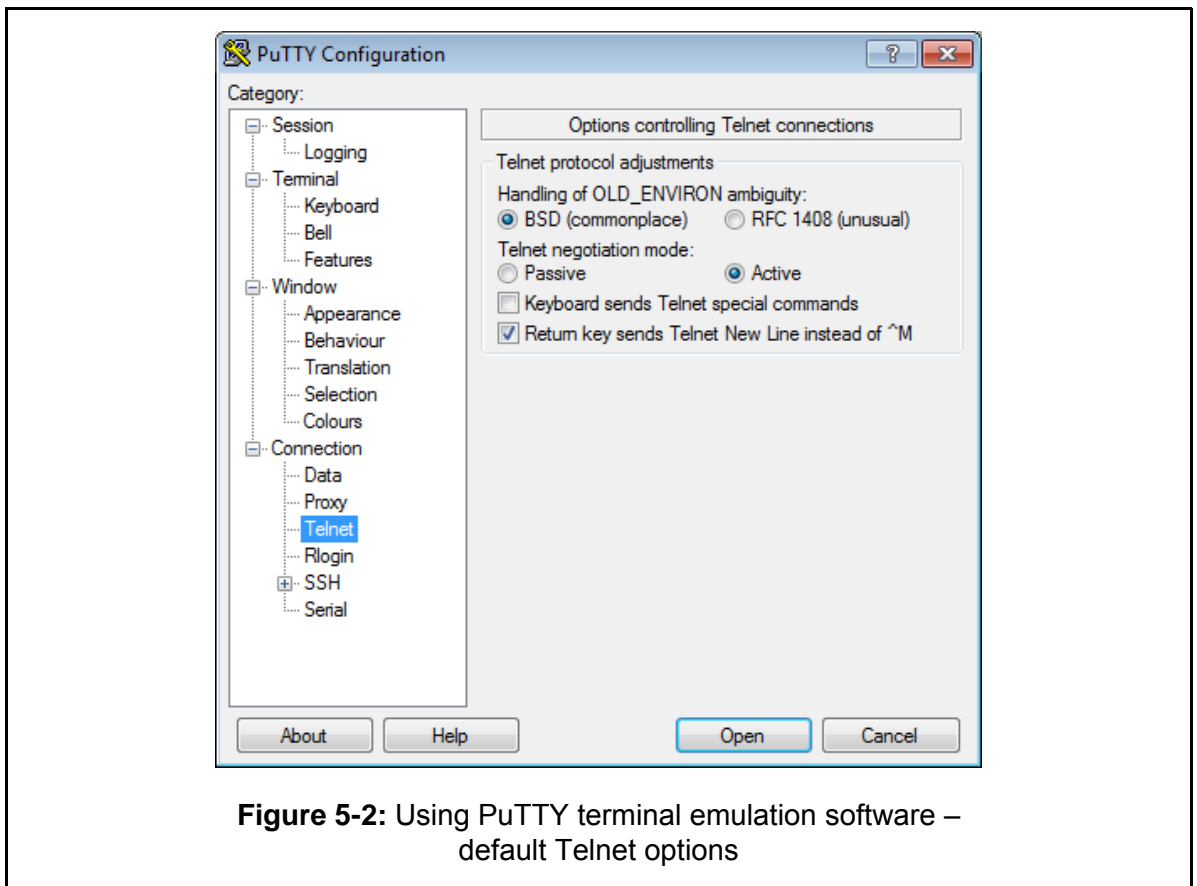

Figure 5-2: Using PuTTY terminal emulation software – default Telnet options
- 3- Accept the default PuTTY Telnet session options, as shown in Figure 5-2.